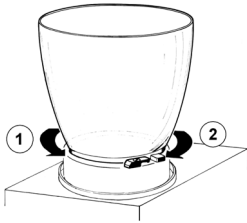

figure 2
counterclockwise (see figure 2).
- 2 Fit bowl gasket to the bowl around its seat. Place the bowl on the unit and then push it down all the way. Fix the bowl by rotating (2) it clockwise. Wet the gasket for ease of insertion (see figure 2).